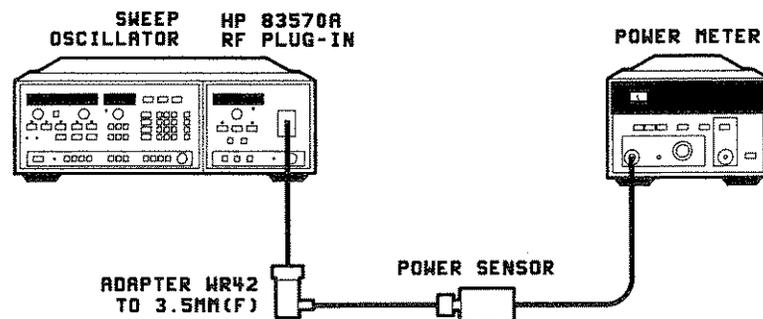

Figure 5-23. Power Calibration Adjustment Test Setup
1. Connect the equipment as shown in Figure 5-23. Allow 30 minutes for warm-up.